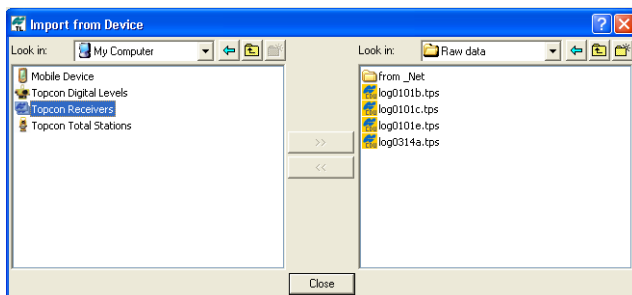

Figure 2-6. Import From Device Window
2. From the left panel of the **Import from Device** dialog box, double-click *Topcon Receivers* (Figure 2-6).